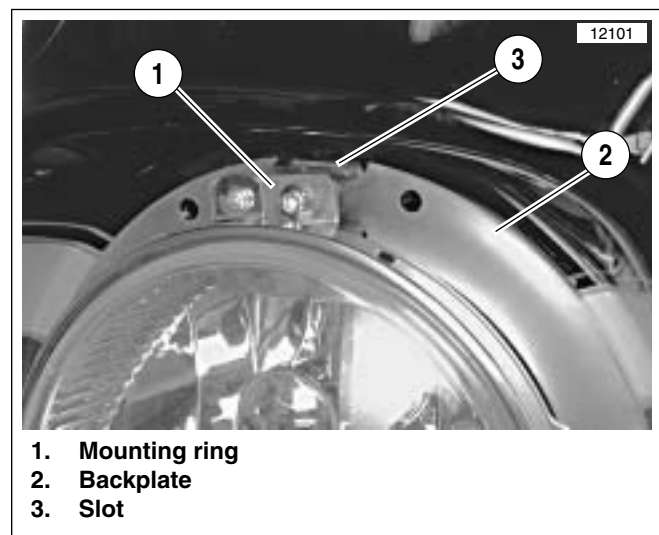

Figure 8-6. Headlamp Support
- b. See Figure 8-6. Fit square-shaped portion of top spring into slot (3) at top of backplate (2).